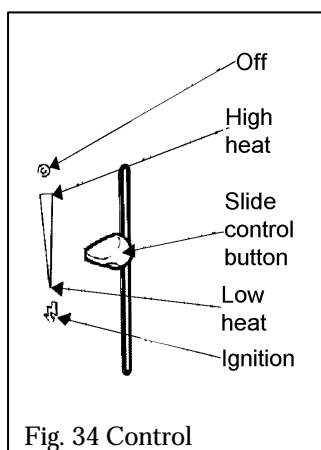

Fig. 34 Control
The control position markings on the front surround are shown in figure 34.
12.1.5 Gradually slide the button up to increase the burner setting. The burner should be at its maximum setting at the high heat position shown in figure 34. You should feel a check to the button movement at this position.